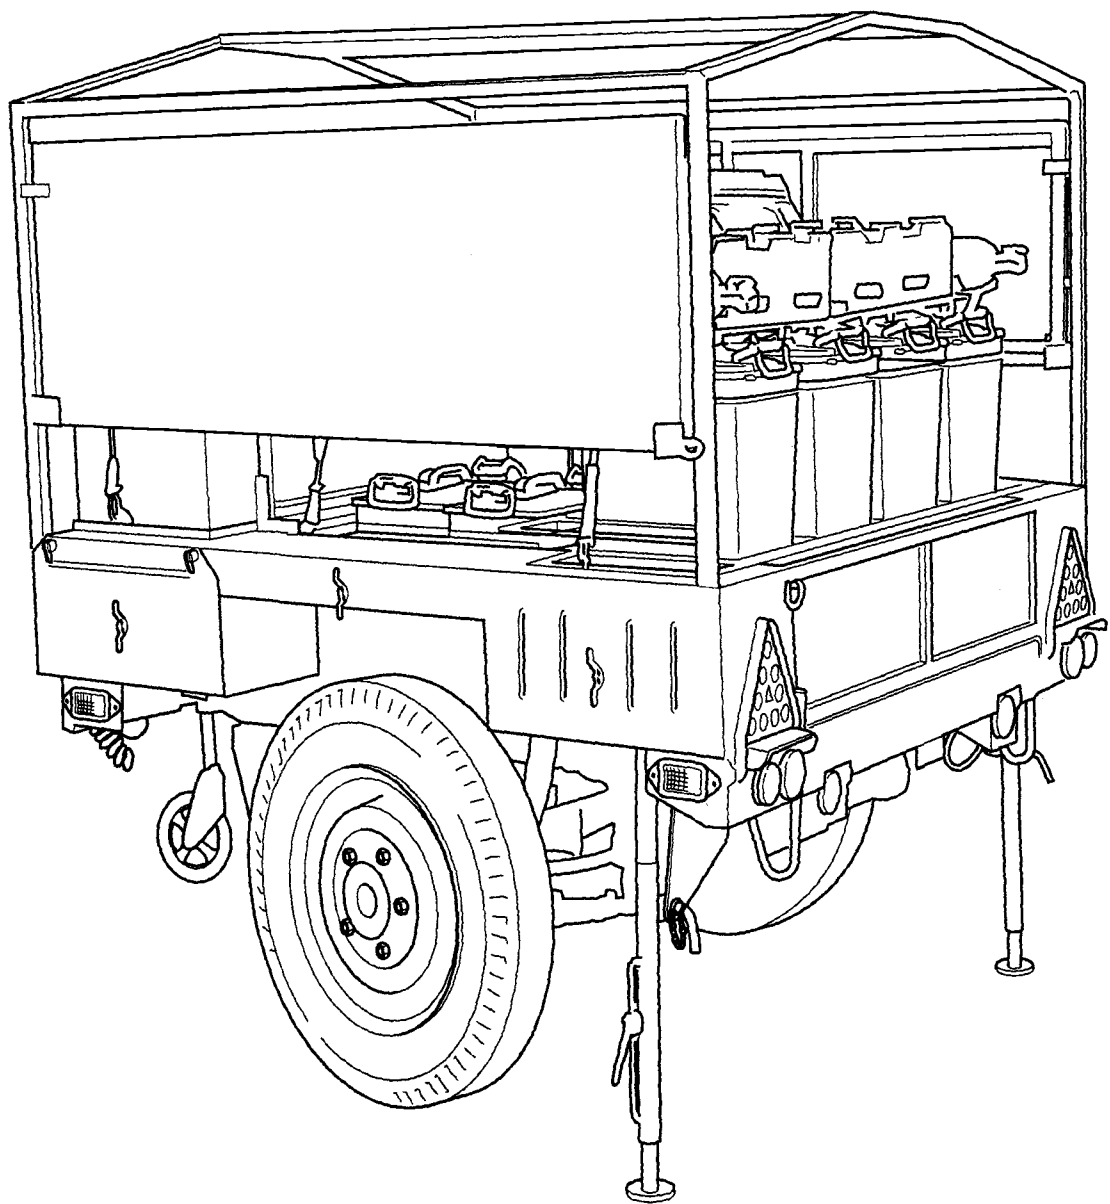

Fig 2 Canopy removed
- 3 Remove the canopy cover as shown in Fig 2, fold and store in a safe place.